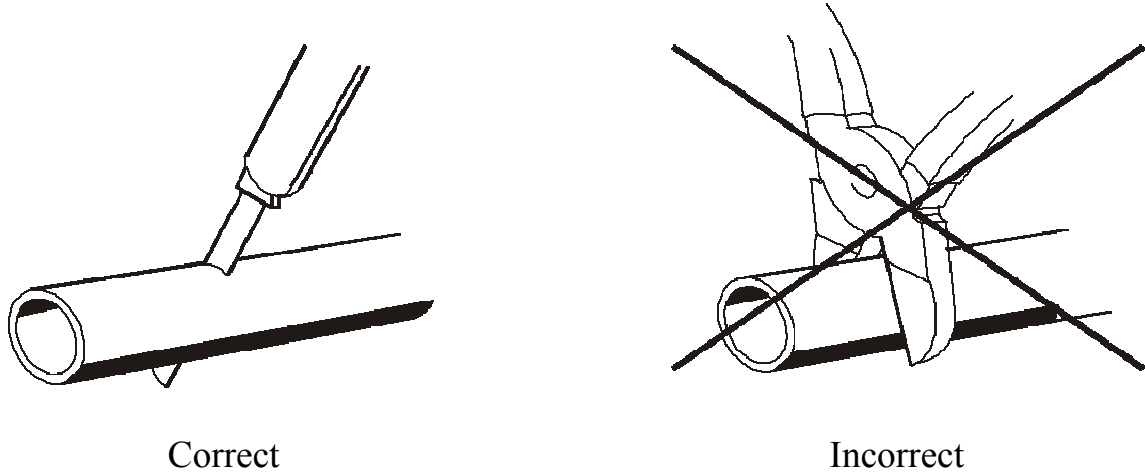

Figure 9 – Cutting the fuel pipe before installation
10.6.2 While assembling the fuel pipe shall be cut only with a sharp knife, as shown in Figure 9. Cutoffs shall be free of restriction, dents and burrs.